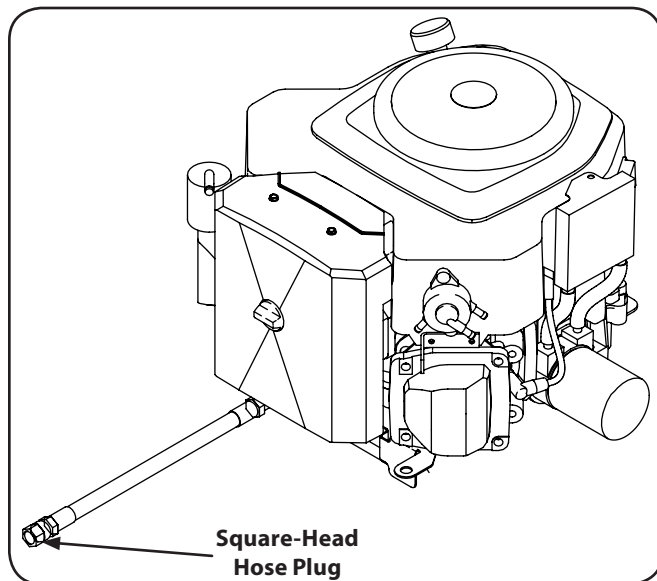

Figure 6-1
3. Pop open the protective cap on the end of the oil drain valve to expose the drain port (A). See Fig 6-1.